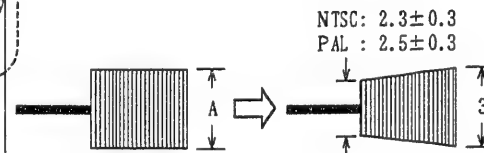

Fig. 3-4
3-3. Supply/Take-up Guide Roller Height Adjustment (Figs. 3-4, 3-5)
<p>● Adjustment procedure</p> <p>Caution: Before performing this adjustment, refer to Fig. 6-1 and modify the ATF-R jig. Connect the ATF-R jig before supplying power.</p> <p>1) After inserting the alignment tape which was completely rewound, set the camera/recorder to the test mode by the following procedure. [Procedure to set to the test mode] ① Remove the power supply from the camera/recorder. ② Set the CAMERA/OFF/VCR switch to VCR position. ③ Check that the ATF-R jig (SW1: OFF, SW3: ON) is connected and then press the playback button and hold it, then supply the power again to the camera/recorder.</p> <p><Note> 1. If the mechanical block operates (enters the playback mode) simultaneously when the power is supplied again, the camera/recorder does not enter the test mode. Restart from step (1) again. 2. The test mode is released when the power supply is removed from the camera/recorder.</p> <p>2) Connect an oscilloscope to TP3 on the ATF-R jig and press the PLAY button.</p> <p>3) Synchronize the oscilloscope with TP1 (SW25/30) on the ATF-R jig.</p> <p>4) Set the oscilloscope to (+) slope.</p> <p>◆ Supply Guide Roller (Fig. 3-4)</p> <p>5) Press SW2 on the ATF-R jig and hold it, then perform the following steps.</p> <p>6) Adjust the height of the supply guide roller so the waveform is flat.</p> <p>7) Adjust the voltage level control of the oscilloscope so that portion (A) of the waveform is set to 4 graduations.</p> <p>8) Set SW1 on the ATF-R jig to ON.</p> <p>9) Turn RT1 on the ATF-R jig counterclockwise so the voltage at point (C) on the ATF-R jig is $1.8 \pm 0.1V$. Then check that point (B) of the waveform is set to 3 graduation.</p> <p>10) Adjust the height of the supply guide roller so minimum amplitude of the waveform is set to NTSC: 2.3 ± 0.3 / PAL: 2.5 ± 0.3 graduations.</p>